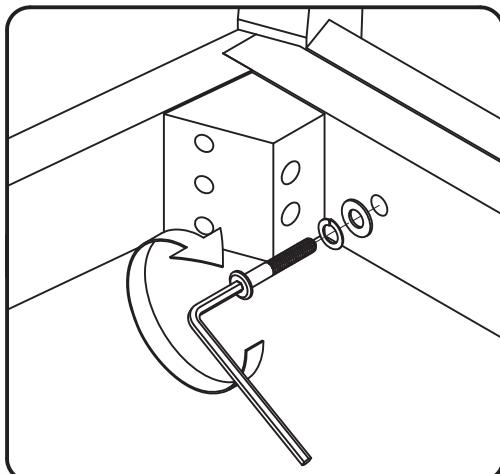

Figure 4
Attach Back Frame (G) to unit with Flat Washers, Spring Washers, Head Cap Bolts (long) and Head Cap Bolts (short), tightening bolts only halfway. (See Figures 4 and 5)